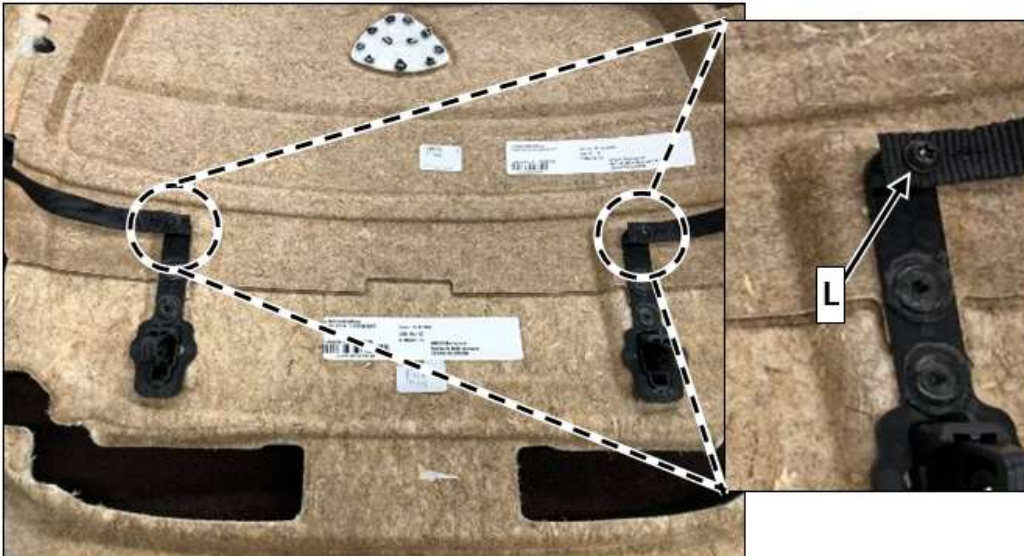

Figure 21
10.5. Install screws (L, figure 21) to seat base trim for the check strap of the outer seat backrest cover.